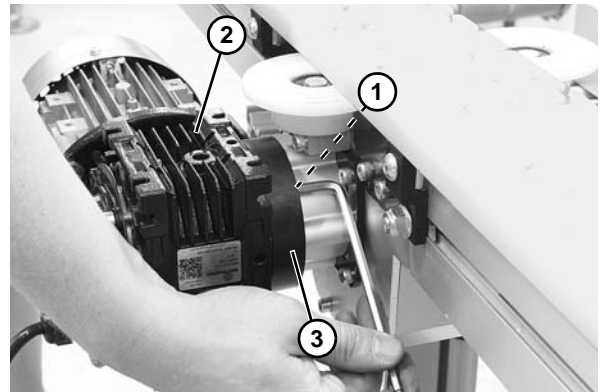

**Figure 84**
3. Remove retaining guide (**Figure 84, item 1**) from idler head plate assembly (**Figure 84, item 2**). Replace components, as needed.